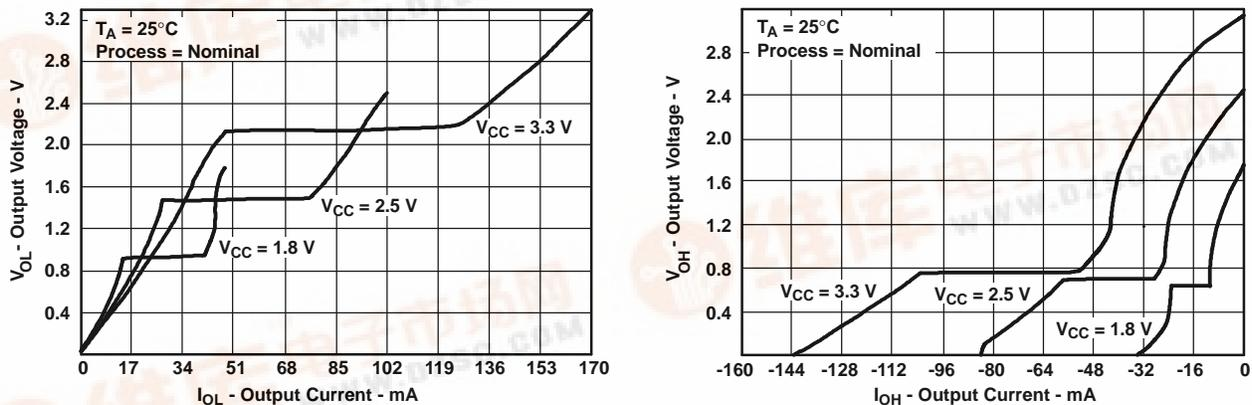

Figure 1. Output Voltage vs Output Current
A Dynamic Output Control (DOC™) circuit is implemented, which, during the transition, initially lowers the output impedance to effectively drive the load and, subsequently, raises the impedance to reduce noise. Figure 1 shows typical V_{OL} vs I_{OL} and V_{OH} vs I_{OH} curves to illustrate the output impedance and drive capability of the circuit. At the beginning of the signal transition, the DOC circuit provides a maximum dynamic drive that is equivalent to a high-drive standard-output device. For more information, refer to the TI application reports, *AVC Logic Family Technology and Applications*, literature number SCEA006, and *Dynamic Output Control (DOC™) Circuitry Technology and Applications*, literature number SCEA009.
- (1) All unused inputs of the device must be held at V_{CC} or GND to ensure proper device operation. Refer to the TI application report, *Implications of Slow or Floating CMOS Inputs*, literature number SCBA004.
- (2) Dynamic drive capability is equivalent to standard outputs with I_{OH} and I_{OL} of ±24 mA at 3.3-V V_{CC}. See Figure 1 for V_{OL} vs I_{OL} and V_{OH} vs I_{OH} characteristics. Refer to the TI application reports, *AVC Logic Family Technology and Applications*, literature number SCEA006, and *Dynamic Output Control (DOC™) Circuitry Technology and Applications*, literature number SCEA009.